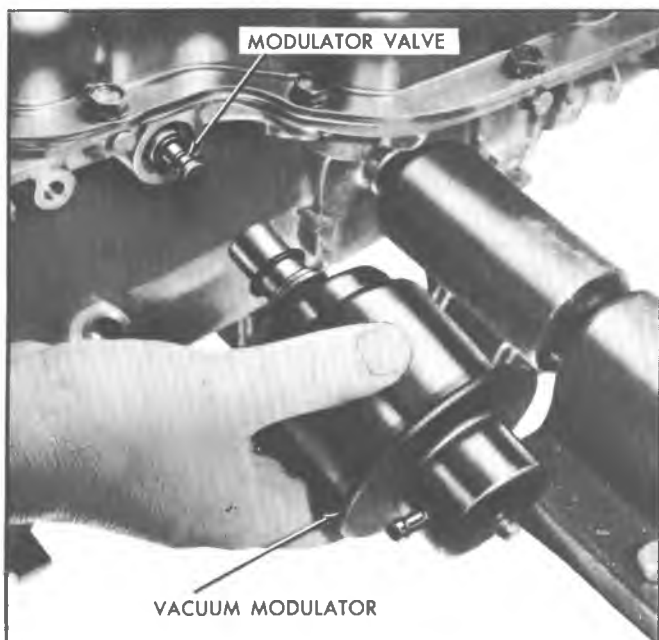

Fig. 7A-186C--Installing Vacuum Modulator and Valve
3. Install filter retainer bolt (Fig. 7A-7C).